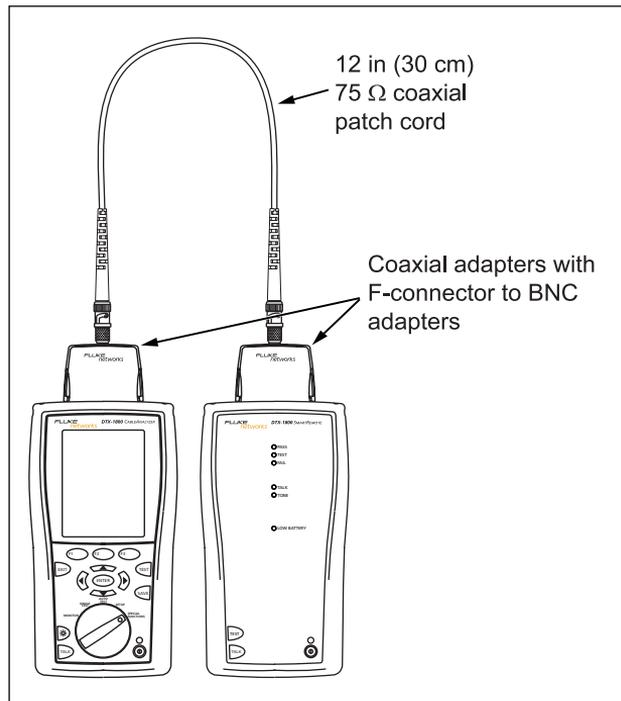

Figure 4-1. Coaxial Reference Connections
- 1 Attach coaxial adapters to the main and remote testers, screw in the F-connector to BNC adapters; then make the connections shown in Figure 4-1.